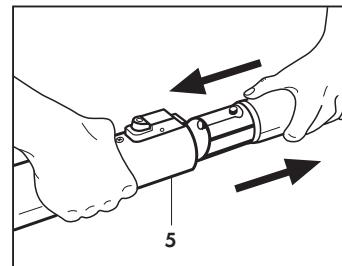

Fig. 12
- install the male end of either component to the female end of the other and use the red lever to secure proper engagement. (**Fig. 12**)